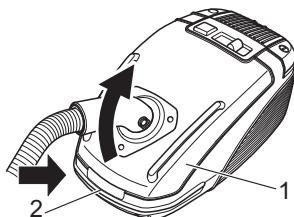

Fig.18
2. Press the release button (Fig. 18/1) and open the dust chamber cover (Fig. 18/2).